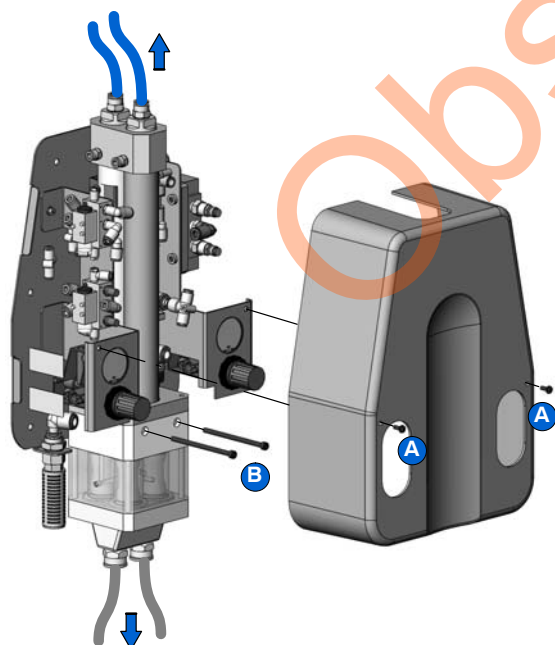
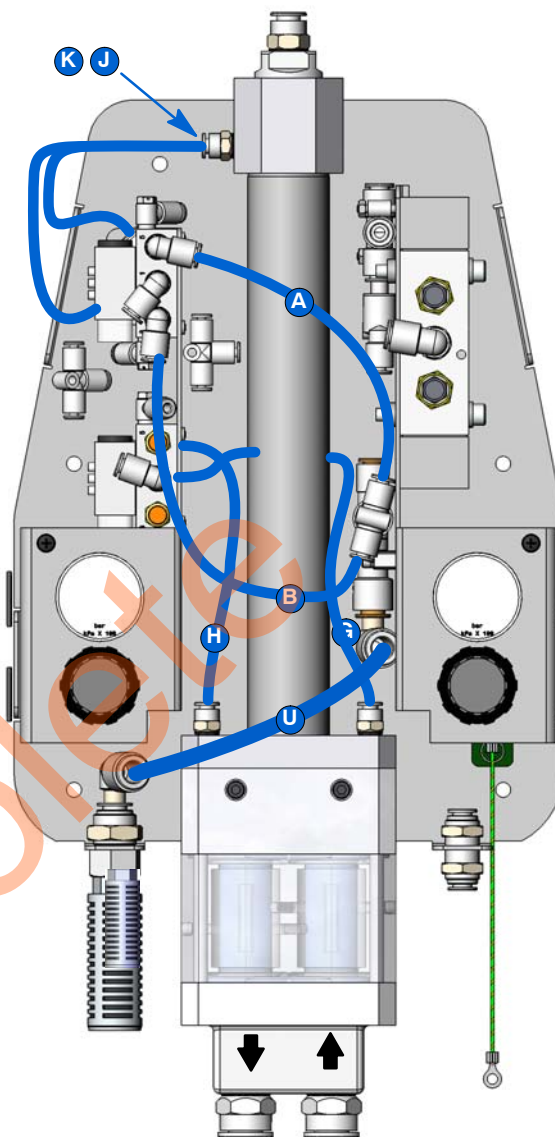

Figure 9 Removing the Pump Assembly
Figure 10 Disconnecting Air Tubing
1. See Figure 9. Disconnect the purge air lines from the top of the pump.
3. Remove the two screws (A) and the cover from the pump.
4. See Figure 10. Disconnect one end of each of the seven air tubes indicated.
NOTE: The letters in Figure 10 correspond to the letters in the *Tubing Diagram* on page 20.
5. See Figure 9. Remove the two screws (B) securing the pump assembly to the base. Remove the pump assembly to a clean work surface.